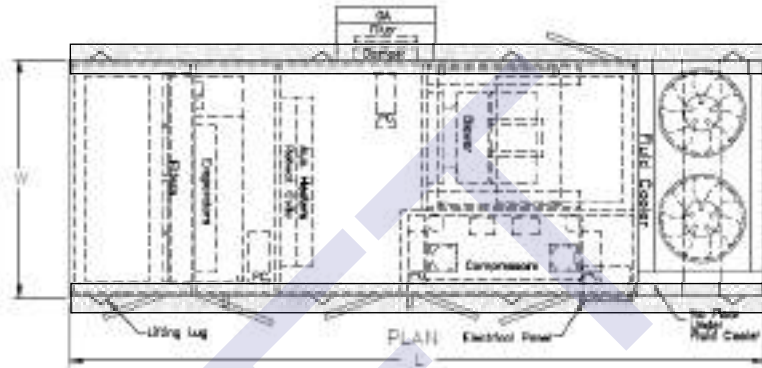

Figure 2 Support beams placed along the unit length "L"
- Supporting beams should be 12" longer than the nominal unit width "W" from figures 2 and 3 above, extending 6" on either side of the unit.